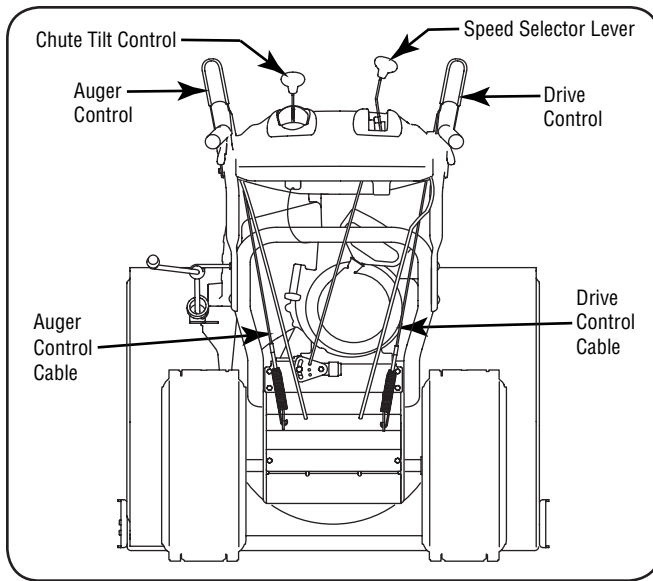
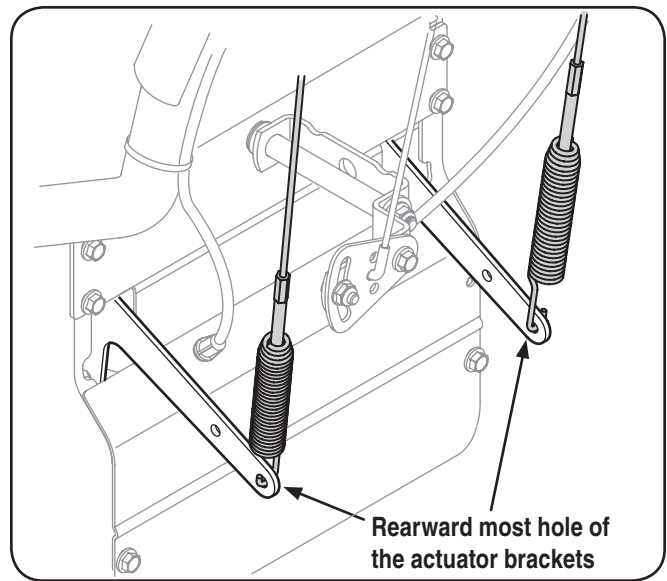

Figure 3-9
Figure 3-10
3. Looking beneath the handle panel, check that all of the cables (steering, auger, shift, and drive) are properly routed and not pinched or kinked. Make certain the springs at the lower end of the auger and drive cables are securely hooked into their respective actuator bracket. See Figure 3-10.
1. When the auger control is released and in the disengaged "up" position, the cable should have very little slack. It should NOT be tight. Refer to Figure 3-9.
4. Allow the auger to remain engaged for approximately ten (10) seconds before releasing the auger control. Repeat this several times.
1. With the engine turned off, move the speed selector lever into sixth (6) position. Refer to Figure 3-9.
1. From beneath the handle, pull downward on the appropriate cable and unhook the spring found on the end of the cable from its respective actuator bracket. Refer to Figure 3-9 and Figure 3-10.